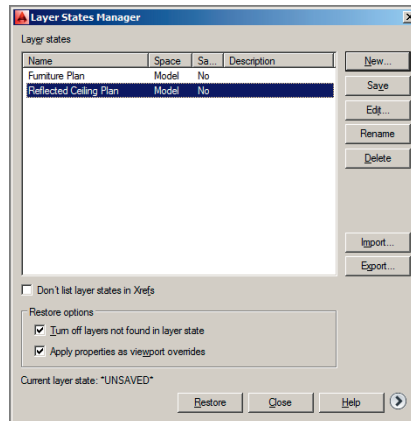

FIGURE 14.21 Restoring a layer state in floating model space
11. Type **LAYERSTATE**, and press Enter. Select the Reflected Ceiling Plan layer state, and then click the Restore button (see Figure 14.21).